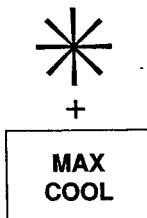

Figure 18
- b. To cancel MAX COOL mode before 10-hour automatic re-set, press and hold START (*) pad; press MAX COOL pad again. See Figure 18.